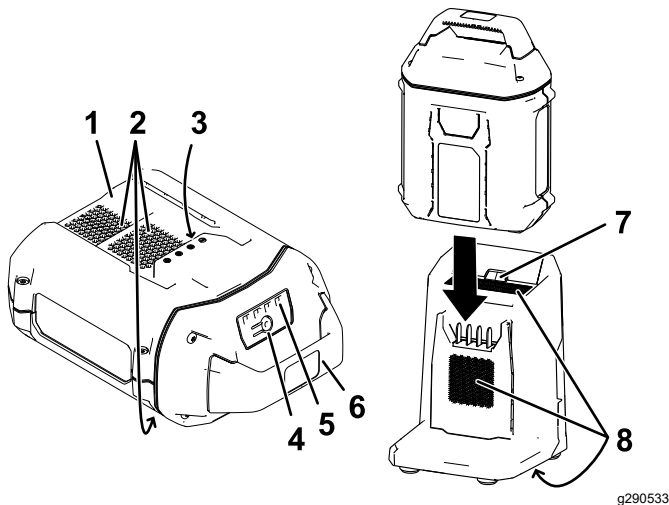

Figure 9
2. Line up the cavity in the battery pack (Figure 9) with the tongue on the charger.
3. Slide the battery pack into the charger until it is fully seated (Figure 9).